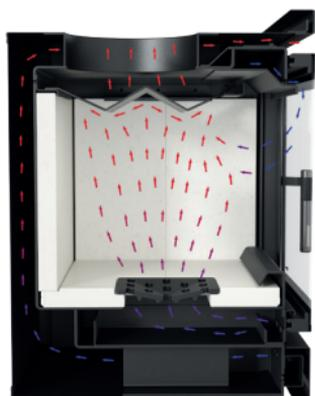
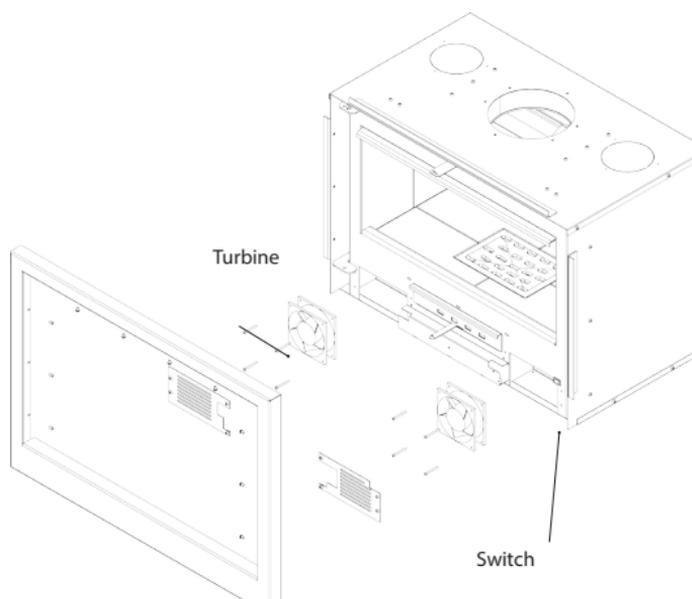
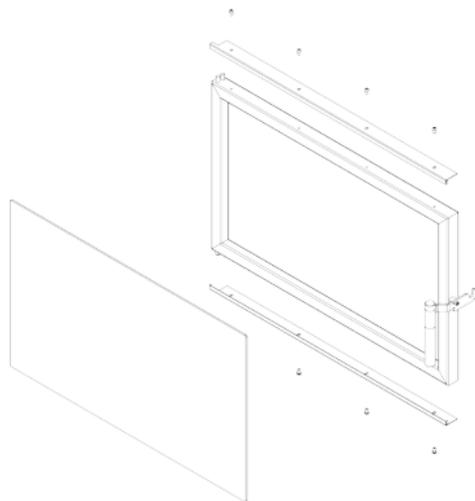

Fig. 1. RK insert - air circulation in the fireplace insert RK
Fig. 2. RK cassette - mounting method of the fans along with the location of switch
Fig. 6. RK cassette - dismantling the glass
ARKE is a fireplace insert designed for your convenience and comfort while maintaining the highest safety and quality standards, as well as combining exceptional elegance and aesthetics. Any additional and useful information, including technical data (Table 1), air circulation diagram inside the cartridge (Fig.1), glass replacement diagram (Figure 6), door removal and replacement diagram (Figure 7-12) Lining and replacement Acumote (Fig. 13-14) can be found at the end of this manual. The instructions also show how to remove the fans (Fig. 2).
FRAM GmbH recommends to set the switch to (1) when firing in the cassette due to the location of the sensor (temp 50°C is obtained only during intense firing). The cassette must not be operated without power supply. (Figure 2)